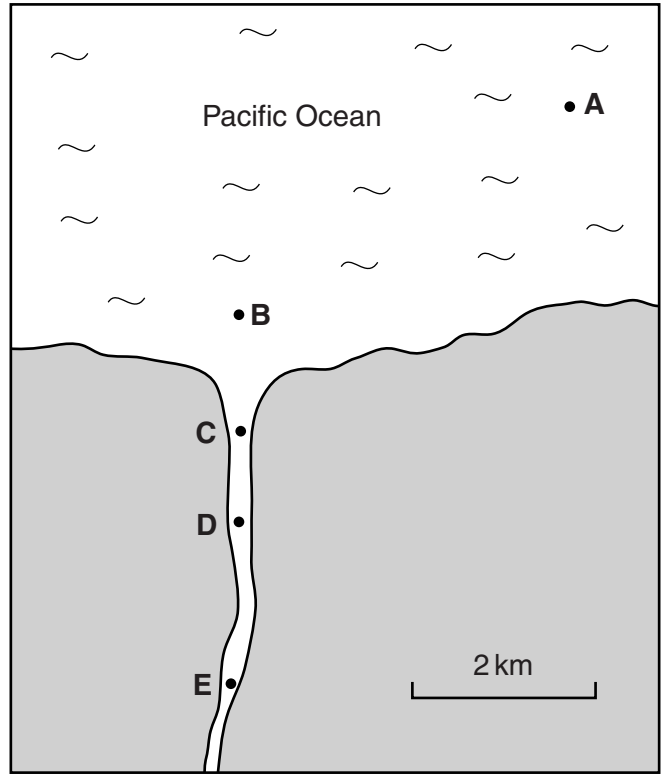

Fig. 2.1
- 2 (a) Fig. 2.1 shows part of a coastline with a river flowing into the Pacific Ocean. The source of the river is a freshwater spring some 20 km inland. Samples of water were collected at points **A**, **B**, **C**, **D** and **E**.